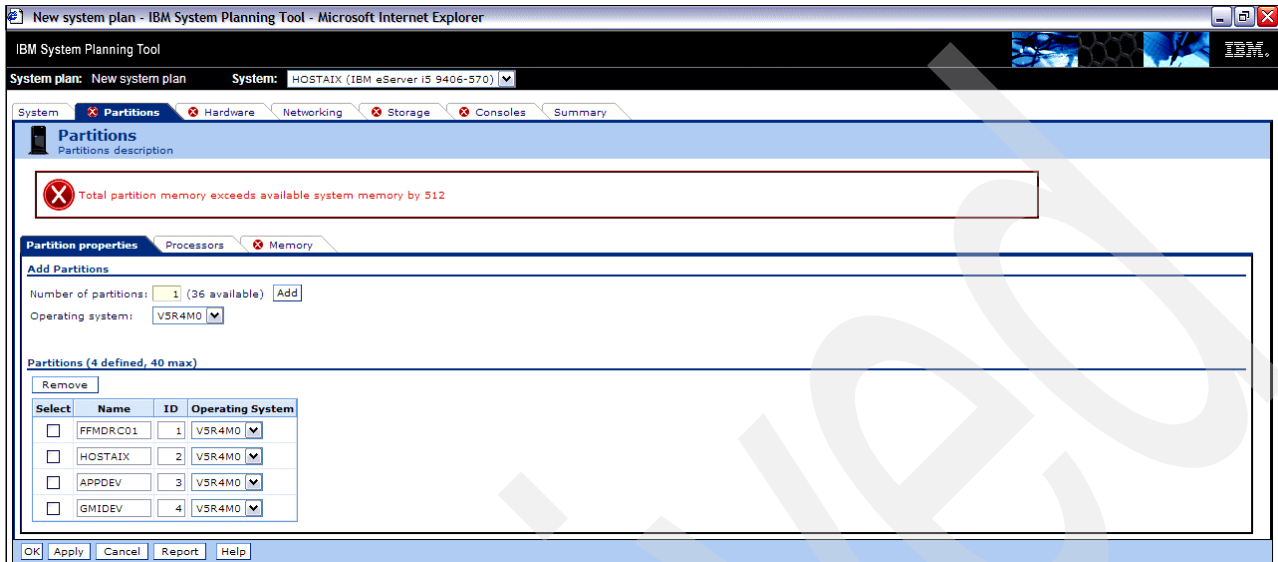

Figure 5-14 WLE generated partition information
11. Once you have made your selection, you are returned to System Planning Tool Version 2. WLE has produced a system that needs to be completed. The selected system is generated with the system partitions allocated, memory allocated, and the processor allocations. The partition allocation and naming is shown in Figure 5-14.